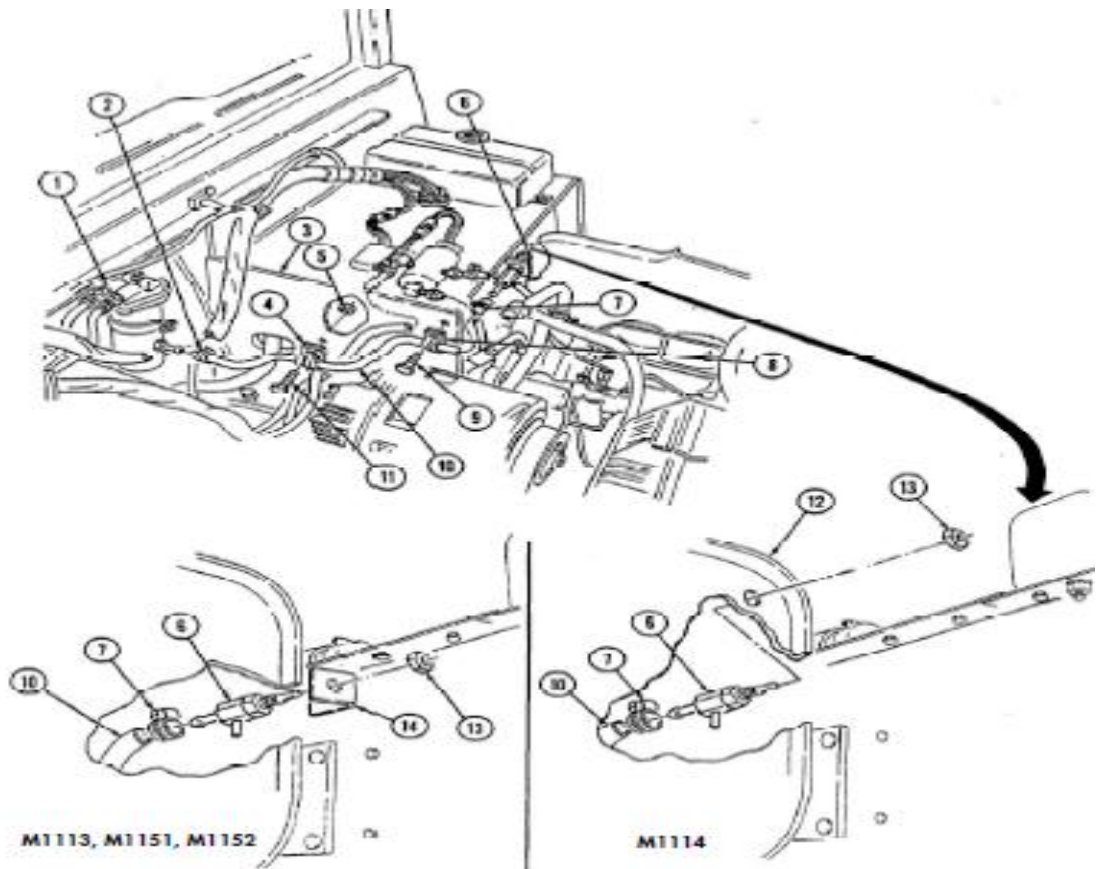

Figure 73
(3) Fuel Filter Drain Hose:
installed on the cowl panel (3) **Figure 73** and that it does not come into contact with the 400 Amp Alternator.